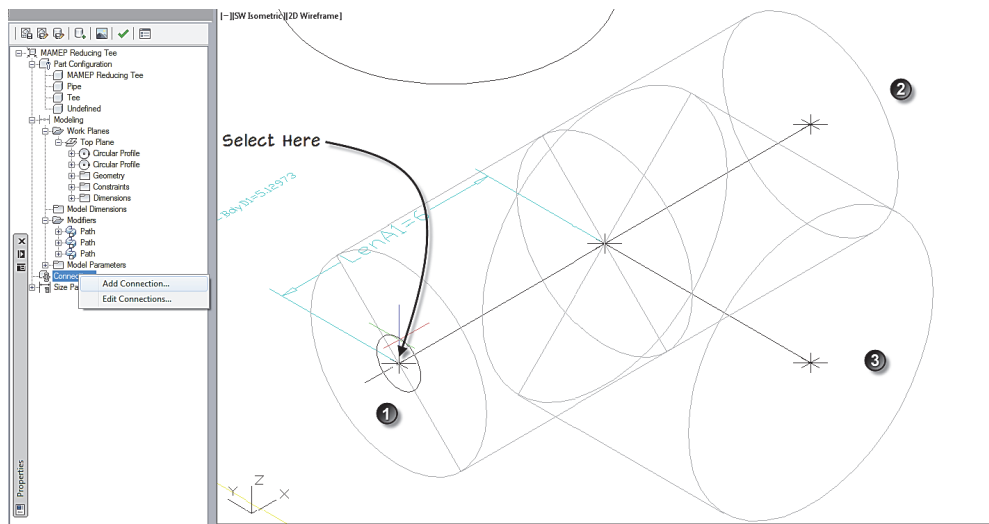

FIGURE 11.14
10. Snap to the point on the left connector. Press enter to assign connector 1 to this connector (see Figure 11.14).
11. Repeat for Connector 2 on the opposite side of the Main and for connector 3 on the branch (see Figure 11.14).